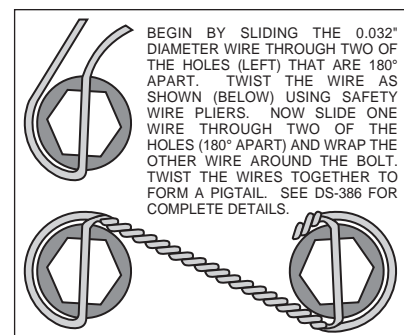
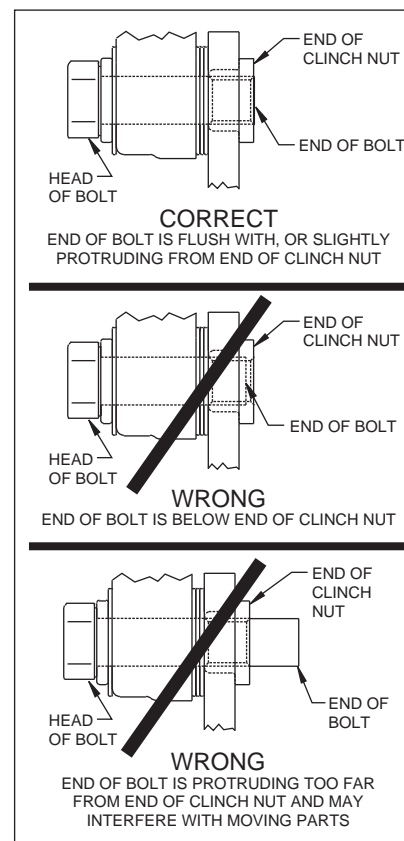

Figure 4. Safety Wire Diagram
Figure 5. Clinch Nut Engagement Diagram
- The rotor (3) has two sides. A flat side and an inset side. Bolt hat (2) to flat side of rotor (3) using bolts (5). Using an alternating sequence, apply red *Loctite*® 271 to the threads and torque bolts to 25 ft-lb. For an added measure of security, the bolts may be safety wired using standard 0.032 inch diameter stainless steel safety wire as shown in Figure 4. Refer to Wilwood's data sheet DS-386 (available at www.wilwood.com/Pdf/DataSheets/ds386.pdf) for complete safety wire installation instructions.
- Align the correct hole pattern in the hat (2) with the stud pattern on the axle flange. **NOTE:** Some OEM and after market axles come with stud sizes larger than 0.50" diameter. Verify stud size and have a qualified machine shop drill the hats to the correct size. Slide the hat/rotor assembly (2 and 3) over the wheel studs and against the axle flange face.
- NOTE:** Please reference the caution statement at the beginning of the assembly instructions. Mount the caliper (6) over the rotor (3) and onto the caliper mounting bracket (1) using washers (7) and mounting bolts (8). View the rotor through the top opening of the caliper. The rotor should be aligned in the center of the caliper. If not, adjust the caliper by using 0.032 inch shims (9) by placing them between the caliper mounting bracket (1) and the caliper (6). Add as many shim washers (9) as necessary to achieve the correct alignment. **NOTE:** The end of the bolt must be flush with or slightly protruding from the head of the clinch nut. See Figure 5. Place spare shims (9) between washer and caliper mounting ear to achieve the proper mounting fastener configuration. Always use the same amount of shims on both the top and bottom caliper mounting bolts (8). Apply red *Loctite*® 271 to the mounting bolt threads (8), torque to 40 ft-lb. Caliper mount bolts may be safety wired for additional security.
- Position the Wilwood disc brake pads (10) into the caliper (6) and fasten with cotter pin (4). Steel backing plate side of brake pad should face the caliper pistons.